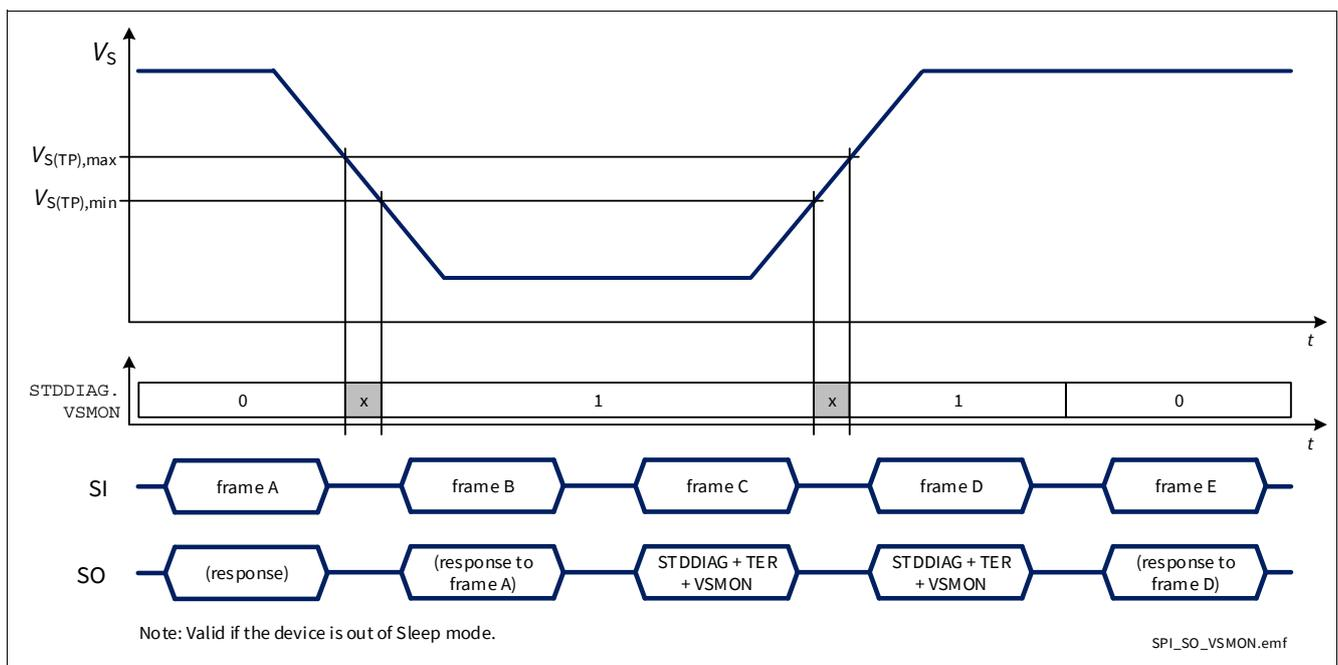

Figure 45 SPI response in case of voltage drop on battery
- When $V_S < V_{S(TP)}$ and $\text{DCR.MUX} \neq 111_B$, as shown in **Figure 45**